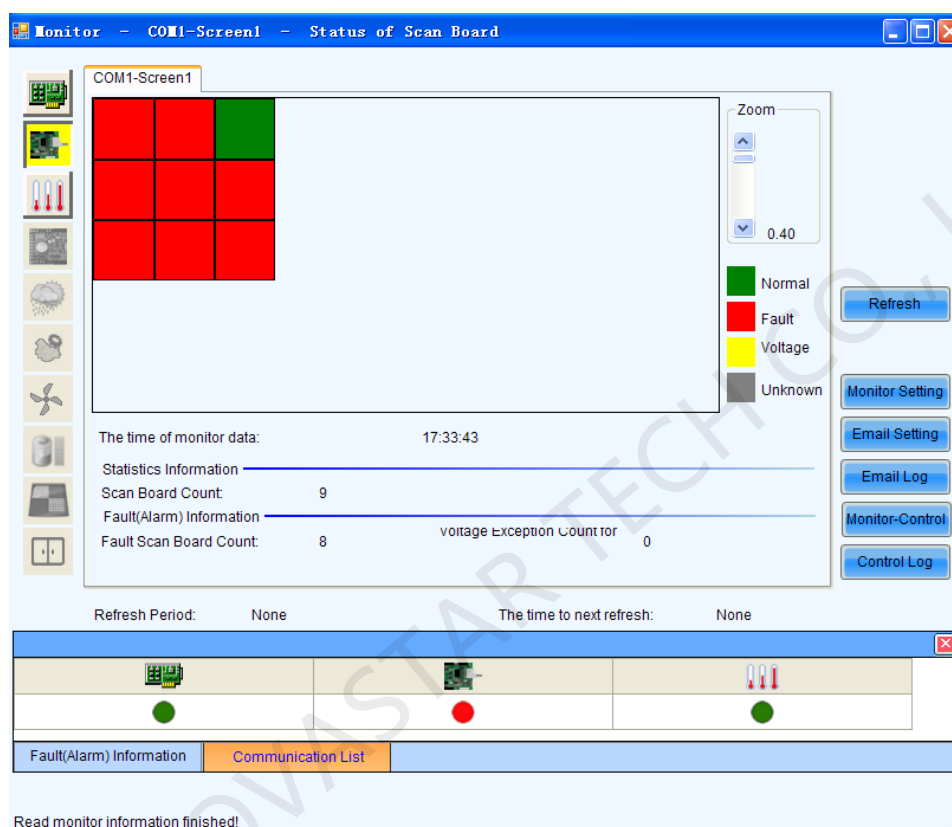

Fig. 7-38 Monitor page
- 1) Click **Email settings** button in the Monitor Page of Fig. 7-38 to enter the email notification setting page shown as below: